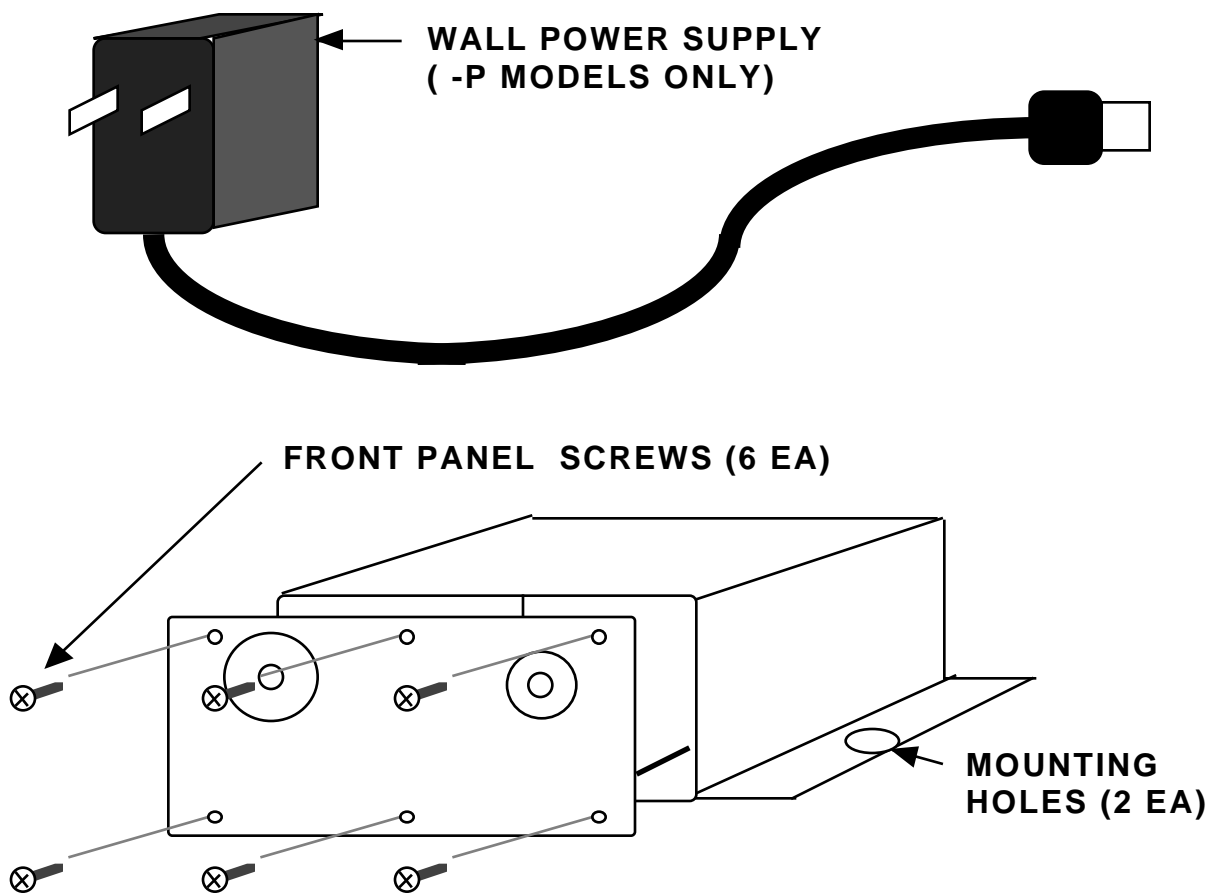
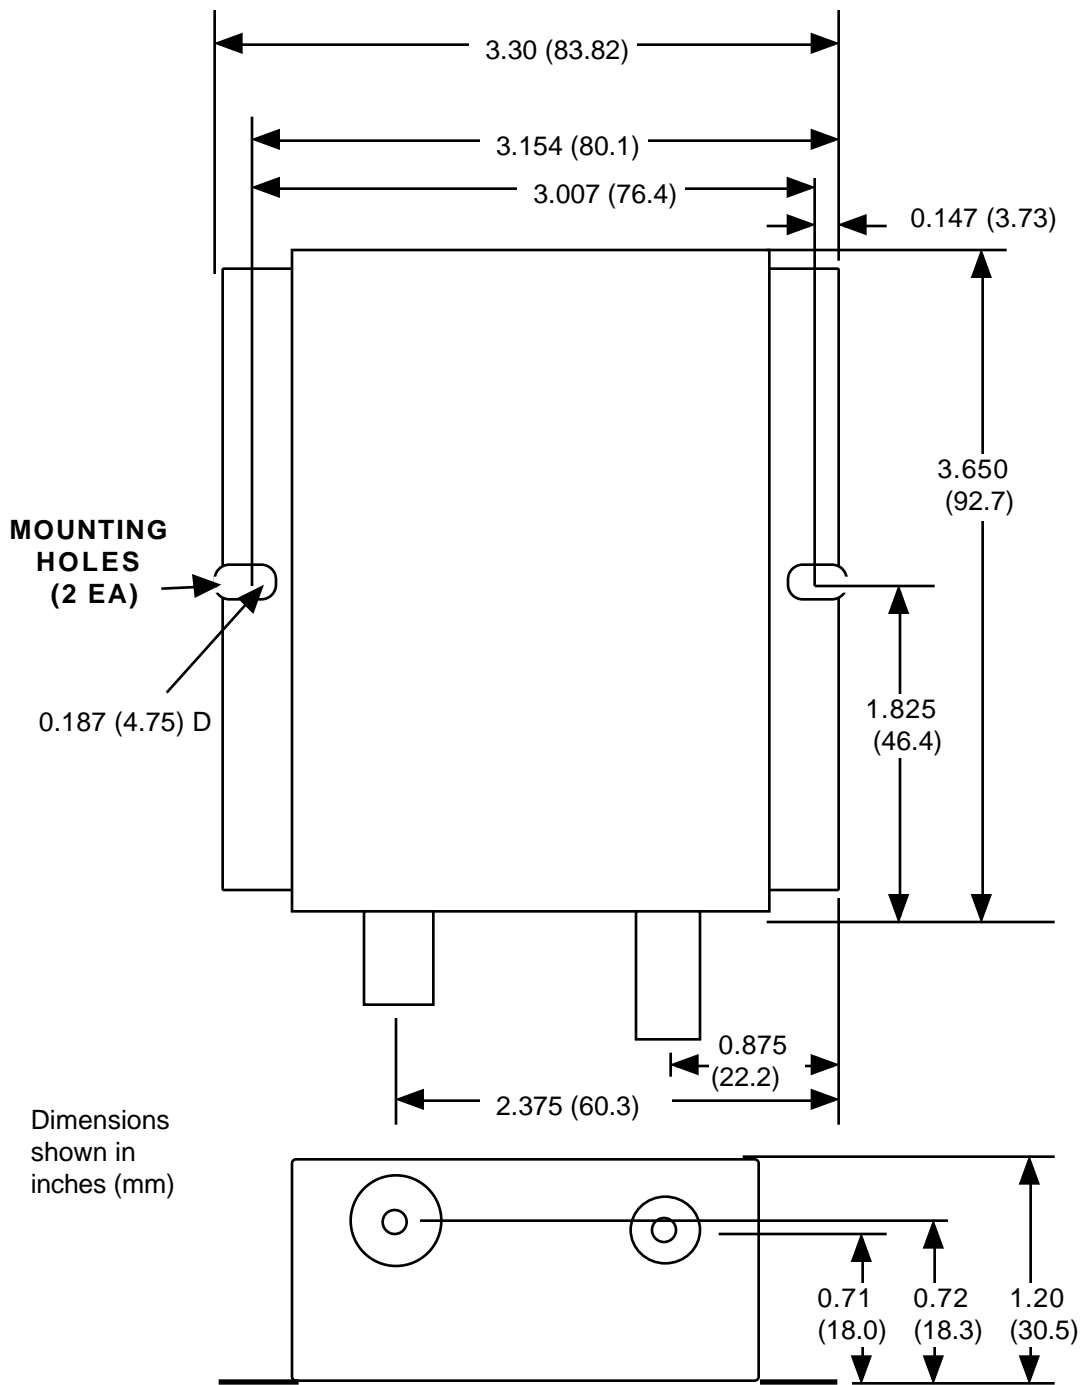

FIGURE 2.1 2006-11, -12 ASSEMBLY DRAWING
Figure 2.2 2006-1X, -2X Package Dimensions
2.1 Mechanical - The 2006-11, -12 are packaged in an aluminum chassis. The unit can be mounted to a panel using the 2 holes at the bottom side flange. The unit derives +DC (+14 to +20 VDC) from the RF out center conductor or +15 VDC from a wall mount power supply for the -P models. (See Figure 2.1 and Figure 2.2).
- 1.) Secure the 2006-11, -12 to a panel using the two bottom mounting holes (see Figure 2.1 and Figure 2.2)